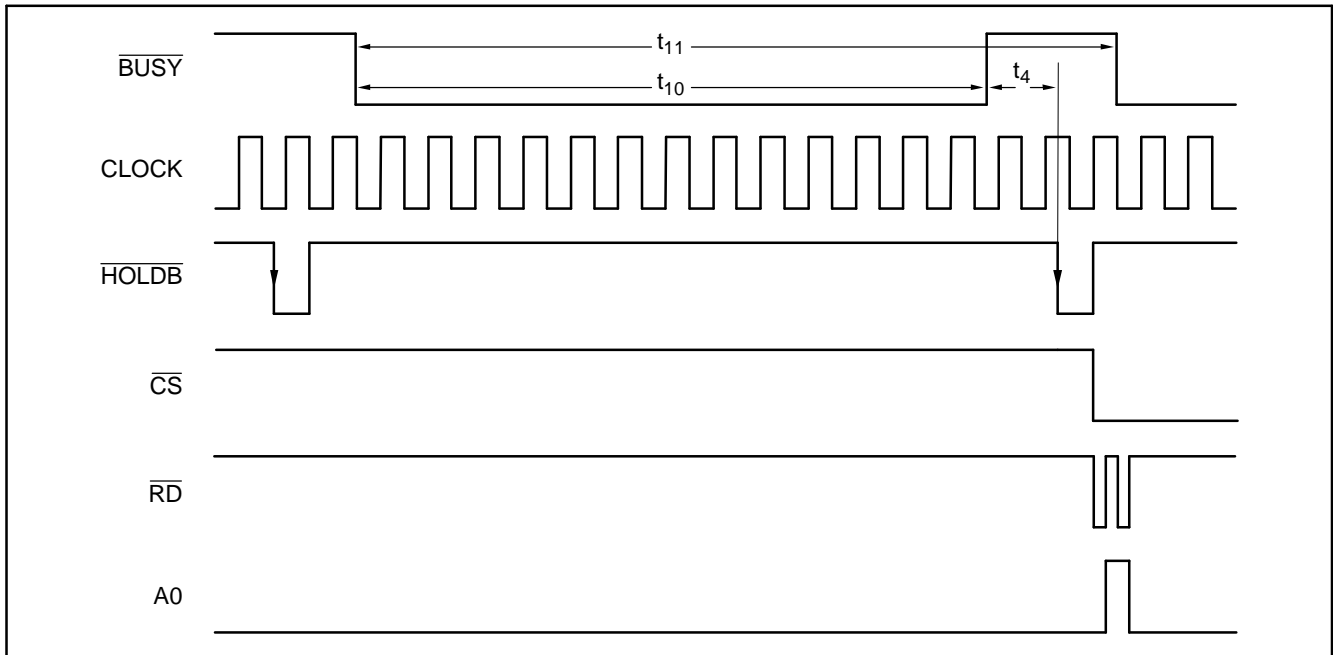
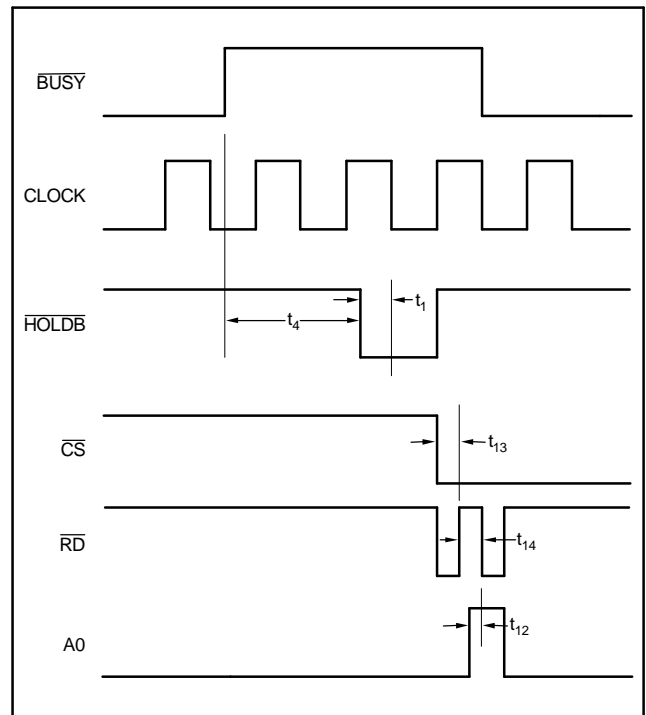

Figure 27. Timing of One Conversion Cycle
Figure 28. Timing for Reading Data
**BUSY**—Busy goes low when the internal A/D converters start a new conversion. It stays low as long as the conversion is in progress (see Figure 27, 13 clock-cycles, t10) and rises again after the data is latched to the output register. With Busy going high, the new data can be read. It takes at least 16 clock cycles (see Figure 27, t11) to complete conversion.
Once a particular hold signal goes low, further impulses of this hold signal are ignored until the conversion is finished or the part is reset. When the conversion is finished ( $\overline{\text{BUSY}}$  signal goes high), the sampling switches will close and sample the selected channel. The start of the next conversion must be delayed to allow the input capacitor of the ADS7864 to be fully charged. This delay time depends on the driving amplifier, but should be at least 175ns (see Figure 27,  $t_4$ ).
The ADS7864 can also convert one channel continuously, as it is shown in Figure 27 with channel B. Therefore,  $\overline{\text{HOLDA}}$  and  $\overline{\text{HOLDC}}$  are kept high all the time. To gain acquisition time, the falling edge of  $\overline{\text{HOLDB}}$  takes place just before the falling edge of clock. One conversion requires 16 clock cycles. Here, data is read after the next conversion is initiated by  $\overline{\text{HOLDB}}$ . To read data from channel B, A1 is set high and A2 is low. As A0 is low during the first reading ( $\text{A2 A1 A0} = 010$ ) data B0 is put to the output. Before the second  $\overline{\text{RD}}$ , A0 switches high ( $\text{A2 A1 A0} = 011$ ) so data from channel B1 is read.
**READING DATA ( $\overline{\text{RD}}$ ,  $\overline{\text{CS}}$ )**—In general, the channel/data outputs are in tristate. Both  $\overline{\text{CS}}$  and  $\overline{\text{RD}}$  have to be low to enable these outputs.  $\overline{\text{RD}}$  and  $\overline{\text{CS}}$  have to stay low together for at least 30ns (see Figure 28,  $t_{13}$ ) before the output data is valid.  $\overline{\text{RD}}$  has to remain high for at least 30ns (see Figure 28,  $t_{14}$ ) before bringing it back low for a subsequent read command.
With (A2 A1 A0) = 000 to 101 a particular channel can directly be addressed (see Table 3 and Figure 27). The channel address should be set at least 10ns (see Figure 28,  $t_{12}$ ) before the falling edge of  $\overline{RD}$  and should not change as long as  $\overline{RD}$  is low.